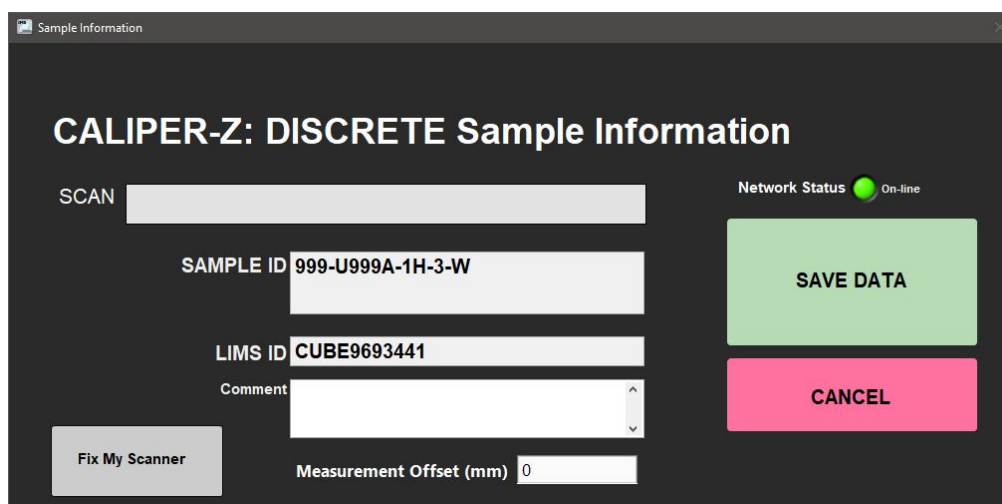

Figure 14. Discrete Caliper Measurements Sample Information Window
6. Select Save Data. The sample information window will open (**Figure 14**). Note that the measurement offset will not be populated. The laser range finder is not used for discrete measurements.